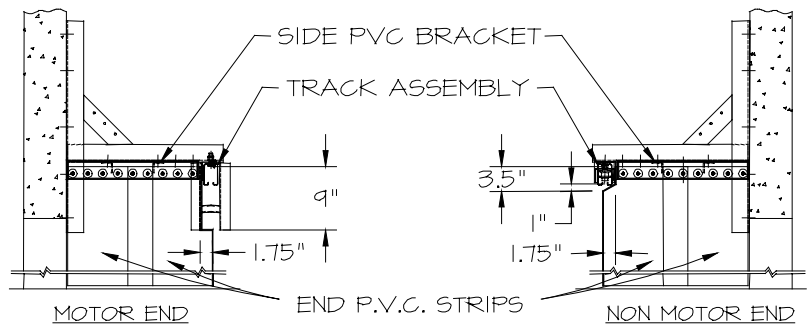

FIG. 14
- c. **Place an End P.V.C. Strip** onto front of Side P.V.C. Bracket at the wall, with curve facing towards center of door (Figure 14).
- f. **Notch** Motor side and non-Motor side End P.V.C. Strips using measurements shown in Figure 14.